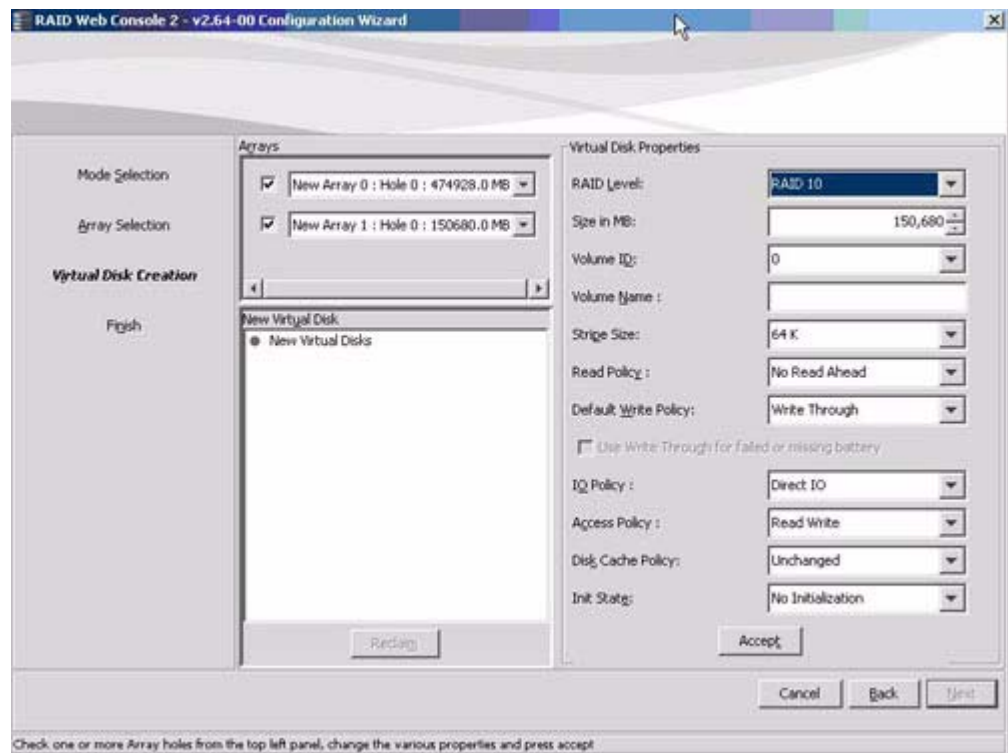

Figure 52. Defining the Spanned Array
4. On the next screen (Virtual Disk Creation), select two or more of the new arrays or disk groups from the Arrays with Free Space menu, as shown in Figure 52. You can select up to eight arrays or disk groups for the spanned array.
5. Select RAID 10 from the drop-down RAID Level menu, as shown in Figure 52, or select RAID 0 or RAID 50 for the other types of spanned arrays or disk groups.